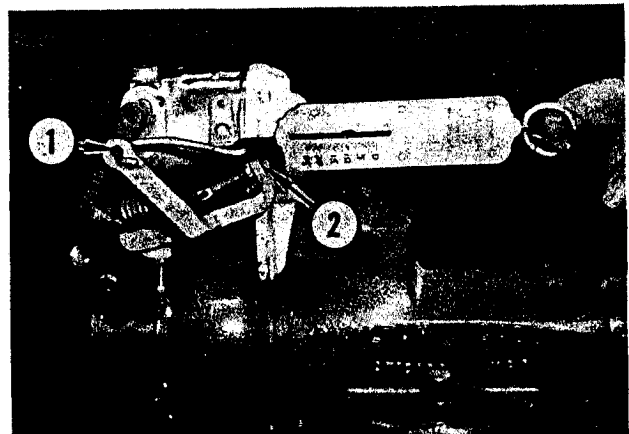

FIGURE 38. THROTTLE LEVER ADJUSTMENT
Refer to Figure 38. Hook fish scale onto throttle lever (1) and adjust spring eyebolt (2) until it takes a pull of 9 lbs. to pull lever in a horizontal line. Do not pull against stop.